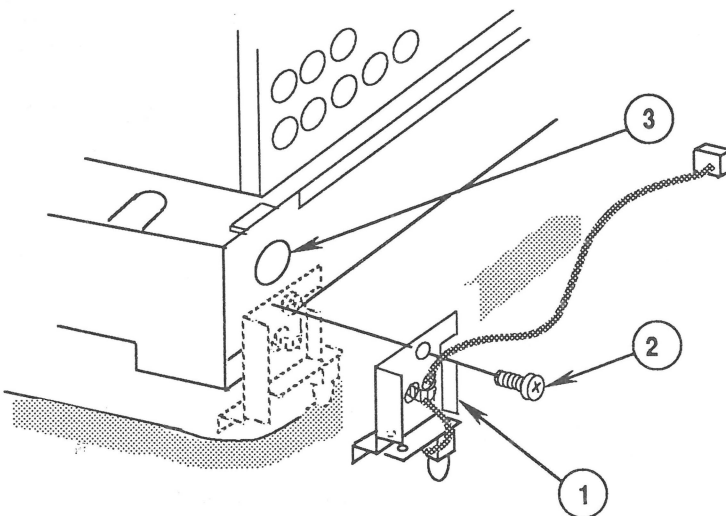

FIGURE 49
4. Align the LED mounting bracket (Figure 49, #1) on the chassis, and install the mounting screw (Figure 49, #2).
5. Insert the LED connector through the access hole (Figure 49, #3) in the bottom of the chassis.